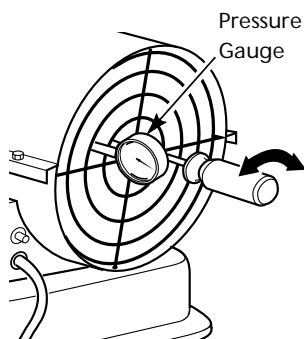

Figure 10 - Adjusting Pump Pressure
4. Adjust pressure to 6.0 PSI. Turn relief valve to right to increase pressure. Turn valve to left to decrease pressure (See Figure 10, page 7).